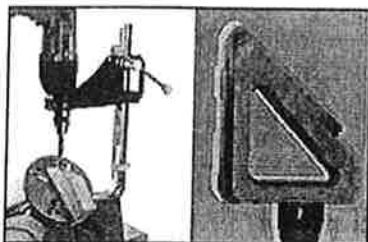

Figure 4
- **45° Block**-this block positions the work plate at a 45° tilt to allow for easy drilling of mitered surfaces. **See Figure 4.**